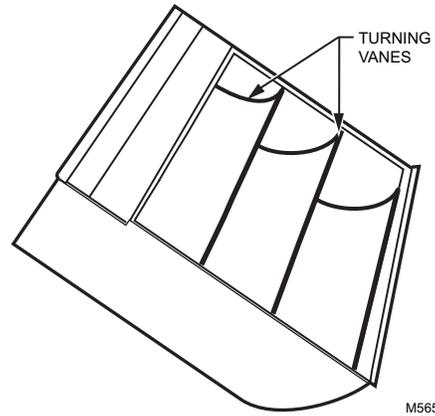

Fig. 13. Turning vanes help distribute airflow evenly over media.
- If the media air cleaner is installed next to an elbow or angel fitting, add turning vanes inside the angle to distribute airflow more evenly across the face of the media. See Fig. 13.